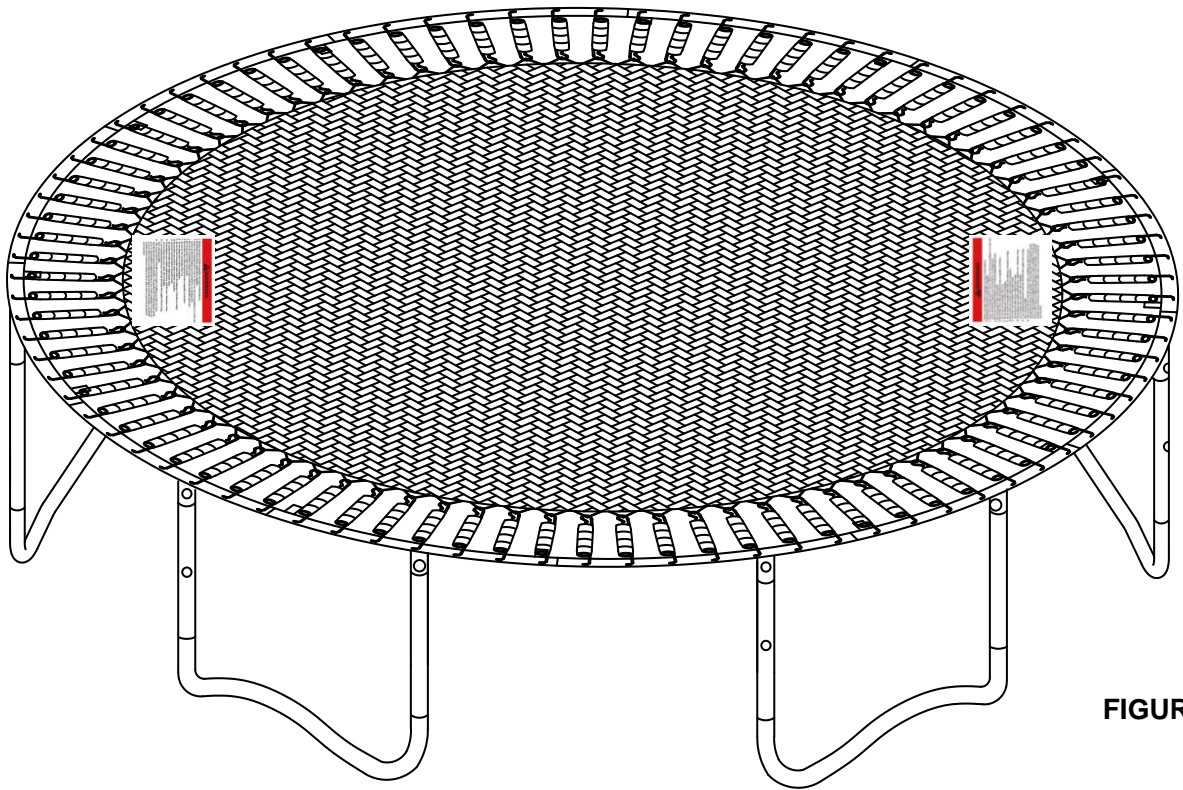

FIGURE 13
H. Then, attach the remaining 48 springs by using the same theory of counting equal holes as shown in FIGURE 13.